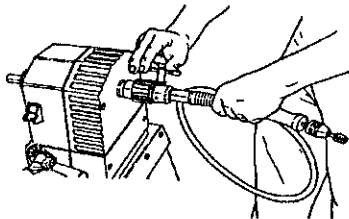

Fig.H-23
4. Install the Flexible Shaft in the drill chuck and tighten with the chuck key. See Fig.H-23.